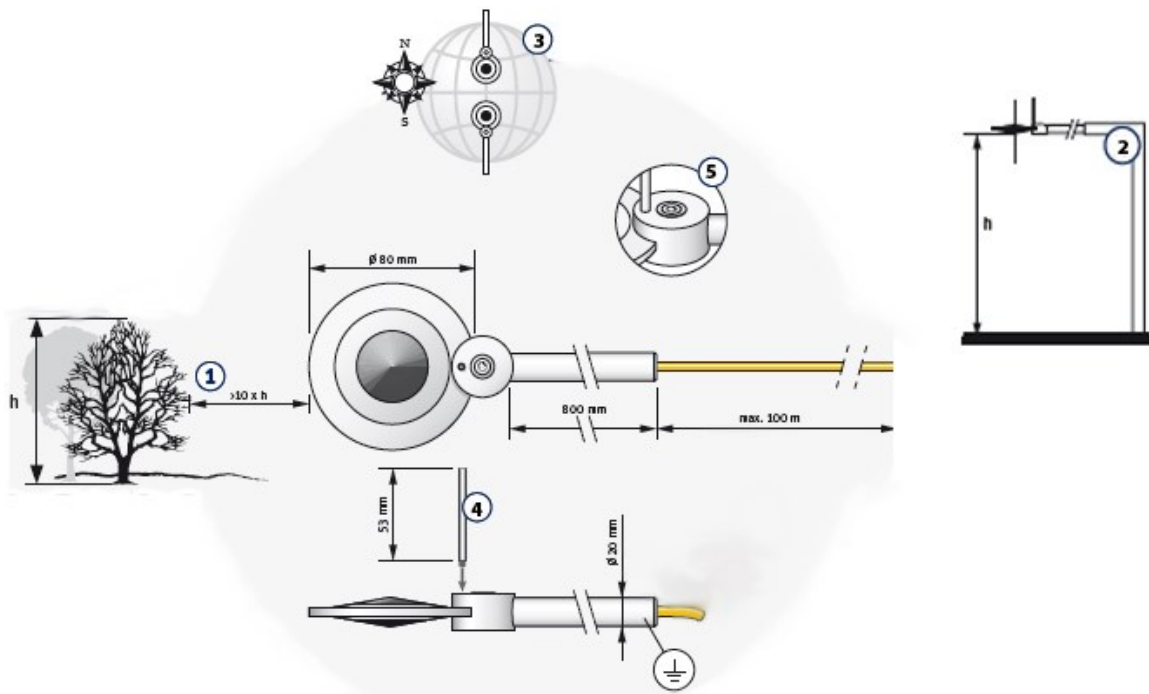

FIGURE 7-1. Siting and mounting diagram for the NR-LITE2
1. Mount the sensor so no shadows or reflections will be cast on it at any time of day from obstructions such as trees, buildings, or the mast or structure on which it is mounted (1 in FIGURE 7-1 (p. 8)).
2. To avoid shading or reflection effects and to promote spatial averaging, the NR-LITE2 should be mounted at least 1.5 m above the ground or crop surface. It is recommended that the NR-LITE2 be mounted to a separate vertical pipe at least 25 ft from any other mounting structures (2 in FIGURE 7-1 (p. 8)).
3. Orient the sensor towards the nearest pole to avoid potential problems from shading (3 in FIGURE 7-1 (p. 8)).
1. Screw in the bird repellent stick, which is shipped with the calibration documentation (4 in FIGURE 7-1 (p. 8)).
4. Perform a coarse leveling of the sensor using the sensor bubble level (FIGURE 7-1 (p. 8)).